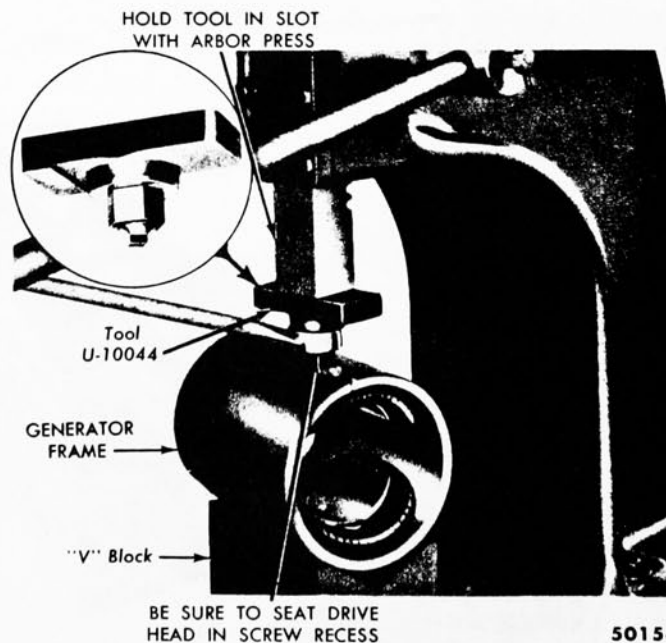

FIG. 13—Pole Shoe Screw Removal
4. Remove the "FIELD" and "GRD" terminal screws from the generator frame, and unscrew the field pole shoe screws as shown in Fig. 13. The arbor press prevents the tool from slipping out of the screw socket.
2. Tighten the field pole shoe screws (Fig. 13). **As the screws are tightened, strike the frame several sharp blows with a soft faced hammer to seat and align the pole shoes.**